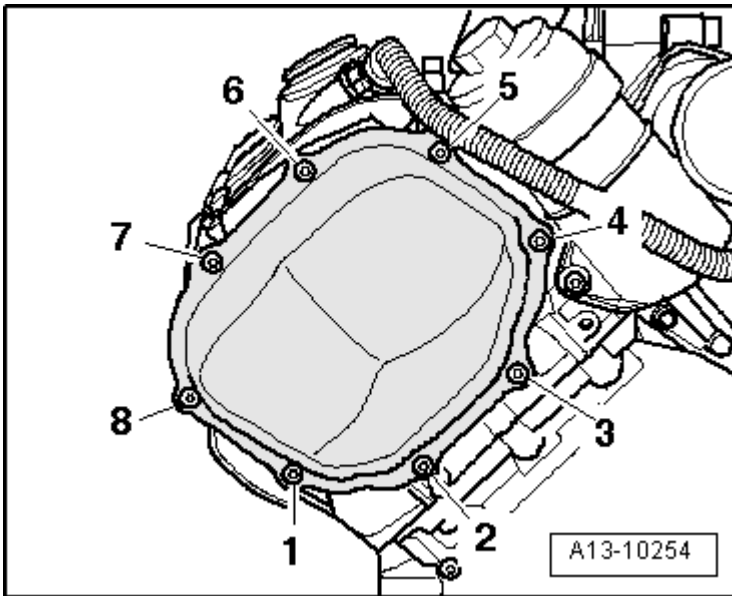

Fig. 13: Loosening/Tightening Bolts In Sequence For Left Timing Chain Cover
- Tightening specification and sequence, refer to **Fig. 13**